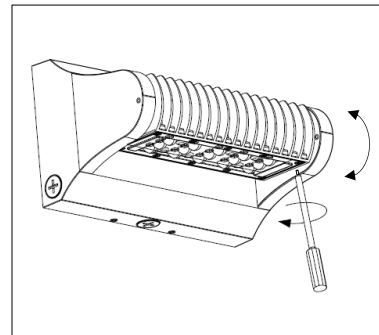

Figure 8
8. Rotate the LED module to the desired position, and then tighten the LED module set screws (see Figure 8).
11. Rotate the LED module to the desired position, and then tighten the LED module set screws (see Figure 8).